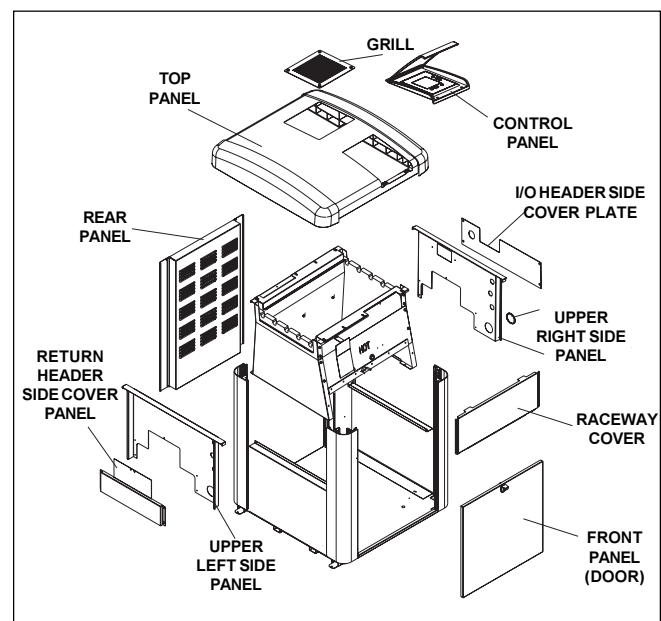

Figure 12. LX/LT A.S.M.E. Panel Identification
4. Remove the control panel assembly from the top panel (see Figure 12 for panel identification). Lift the control panel cover. Remove the two philips head screws located at the front edge of the bezel. Lift the front of the bezel up until the entire assembly comes away from the top. Without removing any wires, slip the control assembly through the hole so that when the top is removed, the control assembly will stay with the heater.